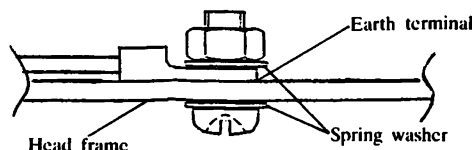

Fig. 72-2
(2) Connect the connector P1 with the main P.C.B. and push in the Power switch.
(3) Fix the Earth terminal to the Head frame. (Refer to Fig. 72-2)